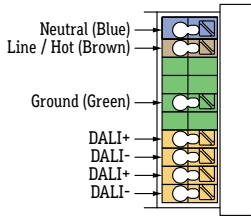

FIGURE 2 (INTERFACE)
- Do not connect LED Lightstrip lightstrip to power source while spooled or coiled. **(Fig. 2)**